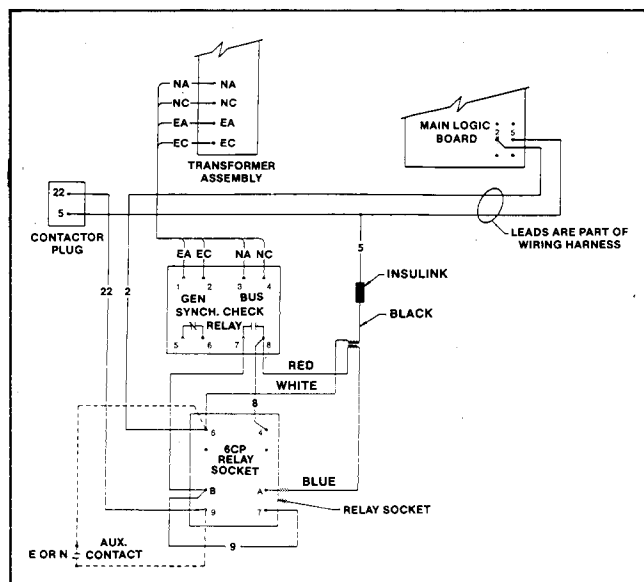

Figure 36. Synch-Check Relay Connections
- ❑ **Acc. 34-B, C, D Synch-check relay.** Monitors normal and emergency sources and will not permit transfer until phase voltages have been within 10° for approximately 60 milliseconds. If source supplying load drops 10% to 30% (adjustable), the relay will override itself, permitting immediate transfer. Accessory operates in either direction or emergency-to-normal or normal to emergency direction only. See Figure 36 for connections.